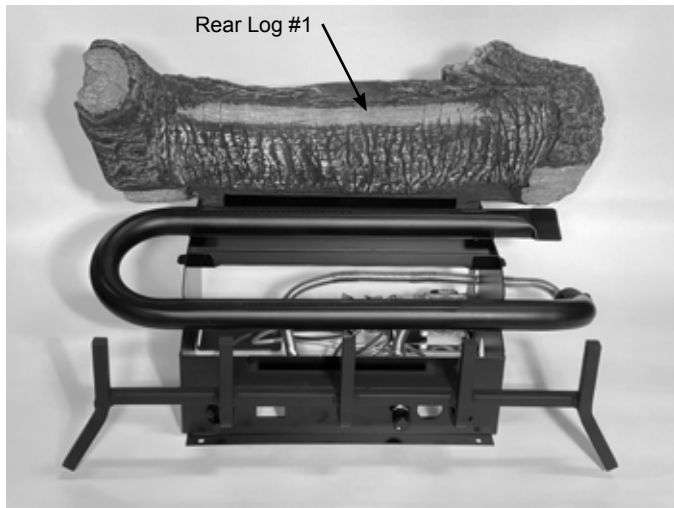

Figure 6.10 - Place Rear Log
1. Place Rear Log (#1) on rear support. Figure 6.10